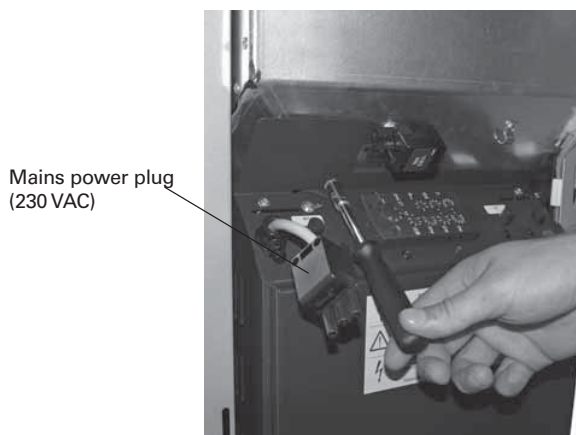

Fig. 46 Disconnecting the mains power plug (230 VAC) and removing the screw.
- Disconnect the mains power plug and remove the screw behind it – Fig. 46.